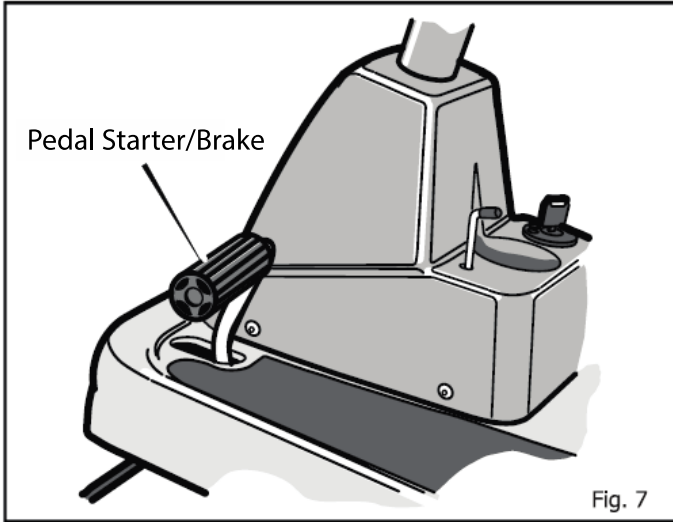

Fig. 7
1. Fully press the starter/brake pedal to stop the device. Keep your foot on the pedal (Figure 7).